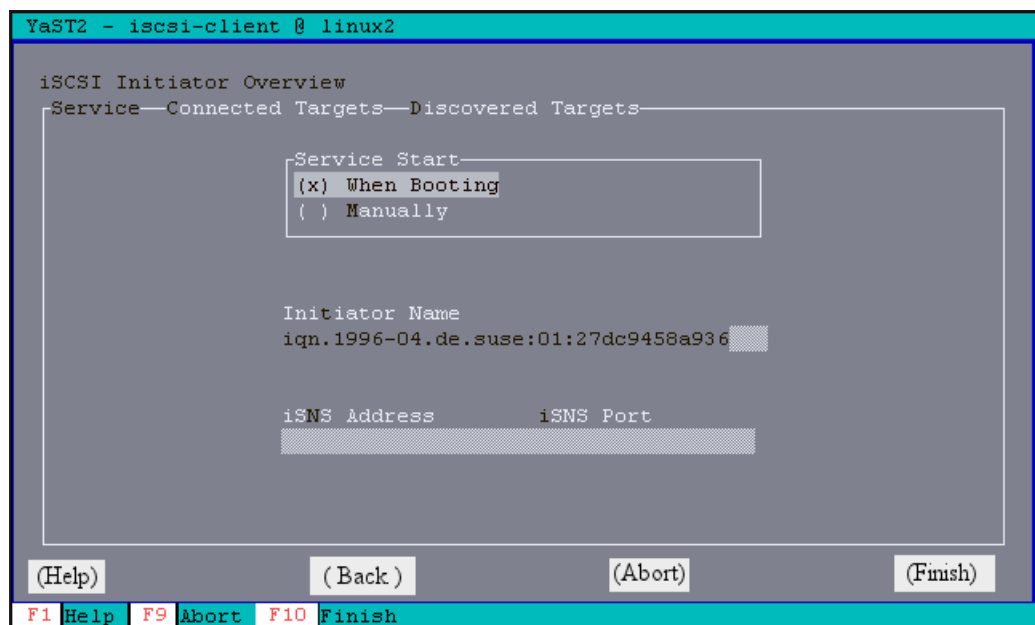

Figure 20-17 Select When Booting
3. The initiator name is automatically generated by SuSE. This is the Initiator name that Storage Manager will discover. Select the option **When booting** to automatically start the service. The panel should be similar to Figure 20-17.